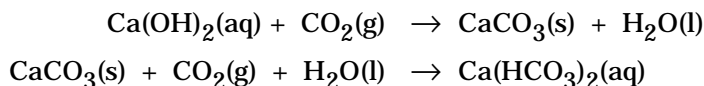

**Figure 1. Diagram for limiting reactant demonstration.**
5. Attach each of the six balloons to the test-tubes prepared in Step 1, taking care not to mix the contents of the balloons and test-tubes (see Figure 1).